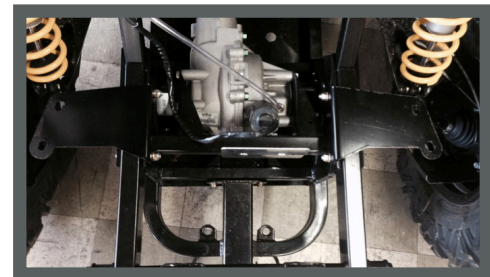

Figure 1
1. Using the supplied long allen head bolts, washers, 1/4" spacers, and the original differential brace nuts, install the silencer brackets. (See figure 1.)